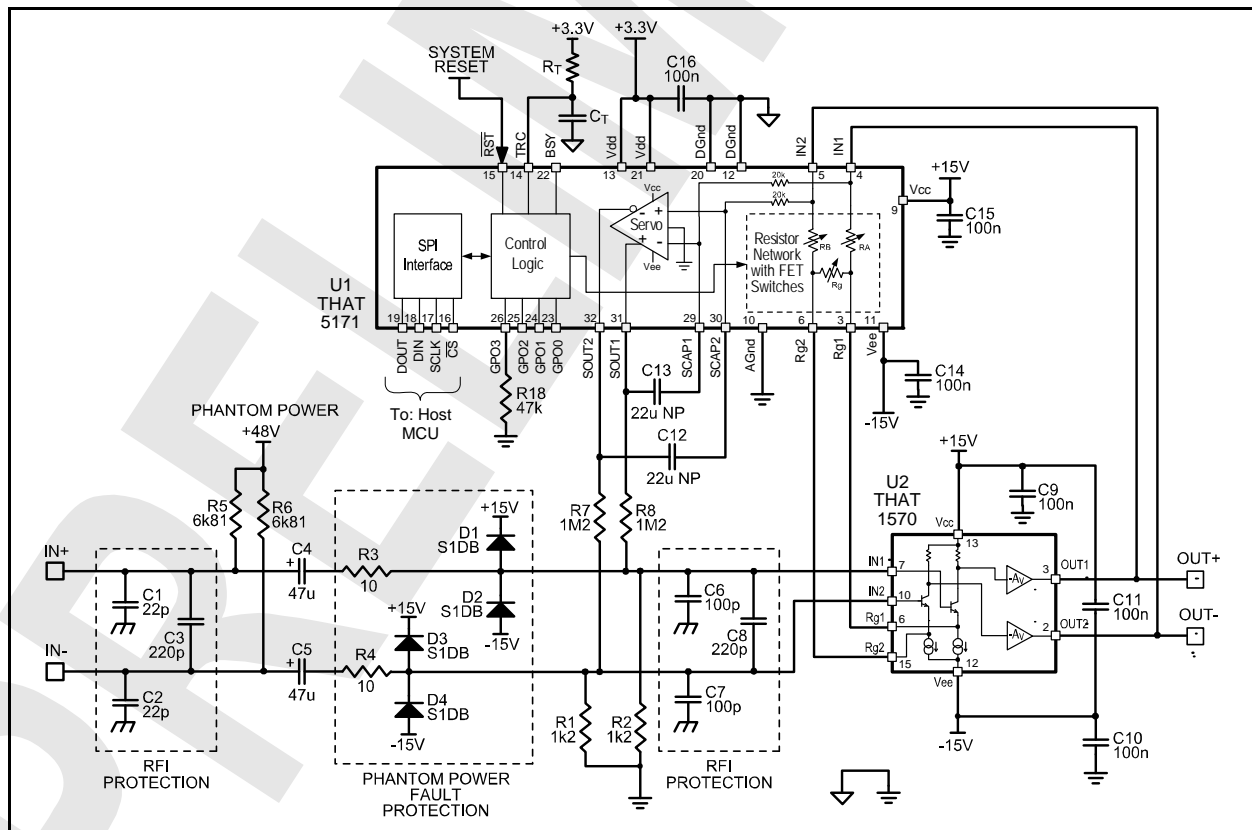
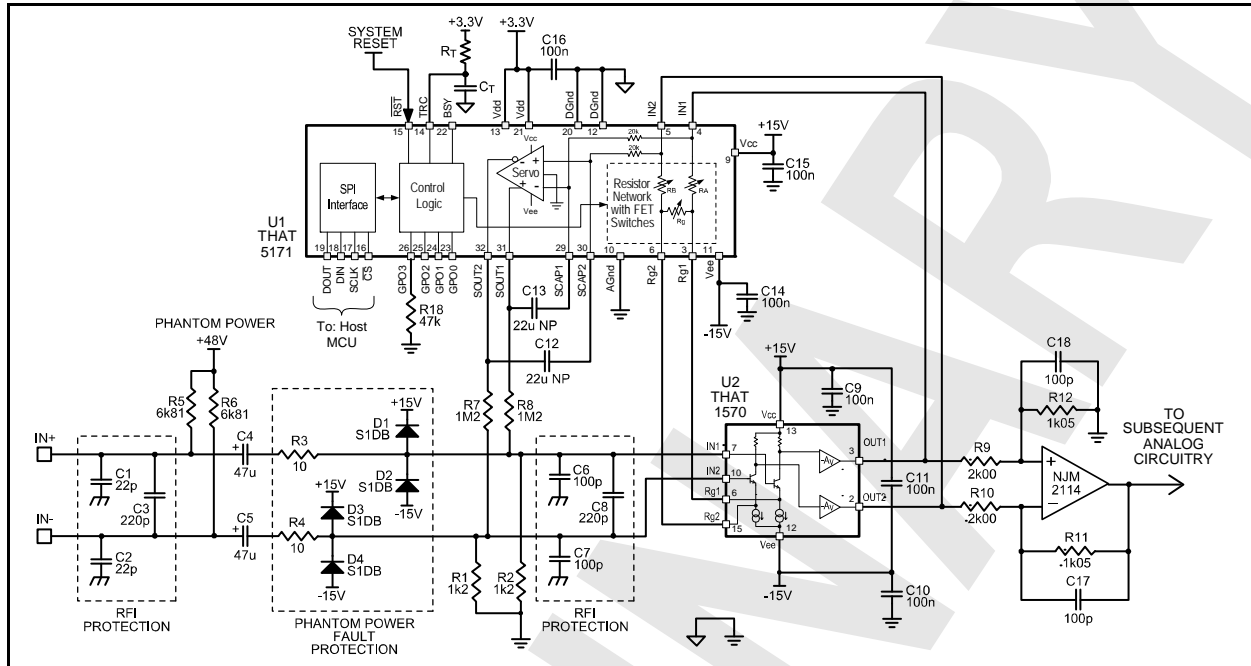

Figure 3. 5171/1570 basic application circuit.
Figure 4. 5171/1570 typical application with single-ended output.
A built-in zero-crossing detector can be used to restrict gain changes to times when the analog signal is very close to zero. The detector monitors the differential signal present between the IN₁ and IN₂ pins of the 5171. When enabled, it permits gain changes to take place only when the signal is within ±5mV. A timeout (set by external components R_T and C_T in figures 3~6) ensures that a gain change will always occur at the expiration of the timeout, in case the signal has not gotten within the voltage window by that time.
The combination of the input coupling capacitors (C₄ and C₅ in Figures 3~6), the bias resistors for the 1570 (R₁ and R₂ – which form a load for C₄ and C₅), and the servo, form a 2nd order highpass filter whose characteristics change with the gain setting. The Q of this filter is highest at the highest gain setting. (At low gains, the behavior is governed almost entirely by the input coupling network and bias resistors, since the poles split and the one related to the servo moves very low.) Assuming 1.2kΩ for R₁ and R₂, and 1.2MΩ for R₇ and R₈, we can set the highest Q to be about .63 (for approximately Butterworth response) if we choose C₁₂ and C₁₃ to be 1/2 the values of C₄ and C₅.
The circuit of Figure 3 shows the most basic application of the 5171 and 1570 to form a complete low-noise microphone preamplifier.
The circuit of Figure 3 offers differential gain that varies from 5.6 to 68.6dB. There is one large ~8dB step from 5.6dB to 13.6dB. Above 13.6dB, gain may be controlled in 1dB steps to +68.6dB. For single-ended analog outputs, the circuit of Figure 3 can be followed by a differential-to-single-ended converter, as shown in Figure 4. Here, the differential amplifier is configured for -5.6dB gain in order to minimize noise and maximize headroom at the output of the circuit. Including the 5.6dB attenuation in the differential amplifier, the system gain can be set to 0dB, or any gain from +8dB to +63dB in 1dB steps.
With the circuit of Figure 4, the maximum input signal levels remain the same, but the (now single-ended) output levels drop by 5.6dB due to the loss of the differential amplifier. When converting to single-ended signals, take care to select a low-noise opamp, and pay attention to the noise generated by the impedances. The component values shown in Figure 4 will largely preserve the dynamic range of the 1570 and 5171 combination, though they do compromise noise by 1dB at the lowest gain settings.
The circuits of Fig 3 through 6 include RFI protection in two sections. Small capacitors (C_1 and C_2) are used from the positive and negative signal inputs to chassis ground, along with a larger capacitor (C_3) across the two inputs. These components should be located as close as possible to the input signal connector, and are intended to prevent RF from entering the chassis of the device.
- 2) **ZERO-CROSSING Mode:** Updates are made on the next output signal zero-crossing after a rising edge on the /CS pin. An RC time constant connected to the TRC pin (R_T/C_T in Figures 3~6) establishes a time-out period in case a zero-crossing does not occur within a desired time window. The zero-crossing time-out function operates as follows: